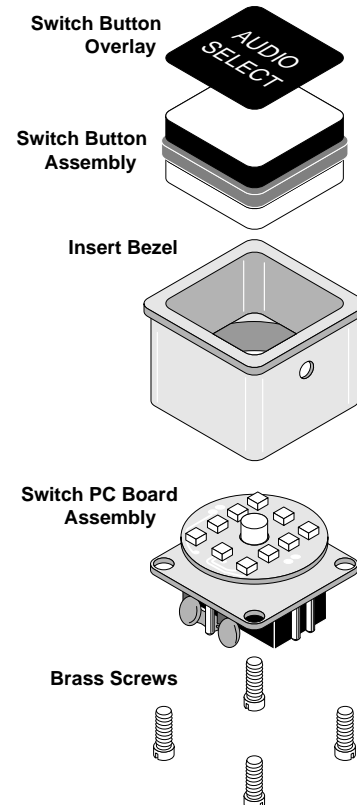
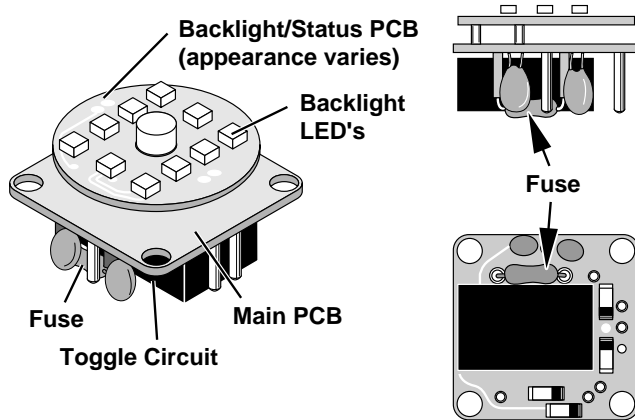

Figure 1
Figure 2
1. Assembly (reference figure 1 and figure 2 for component location). The work surface should be clean and smooth to prevent scratching the switch bezel or overlay: